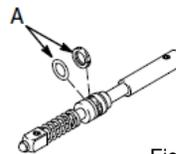

Fig.3
6. Grease the rings(A) of the new needle(8). See Fig.3